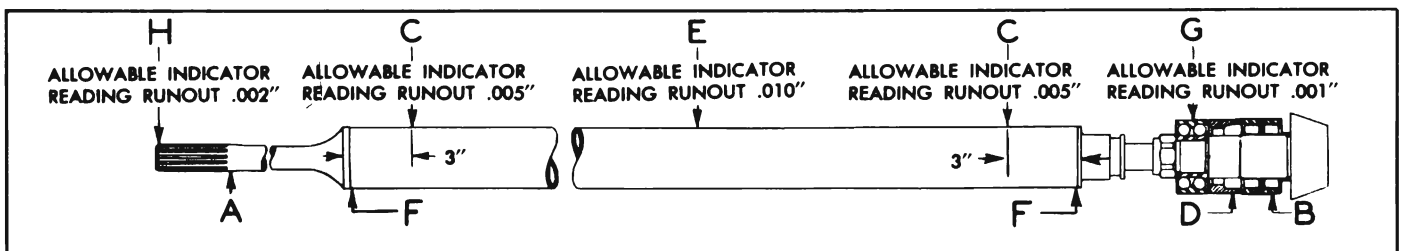

Figure 5-21—Propeller Shaft Run-out Specifications
1. Support the assembly on V-blocks placed under the machined section just to rear of splines at "A" and under the rear (roller) bearing at "B". See figure 5-21.